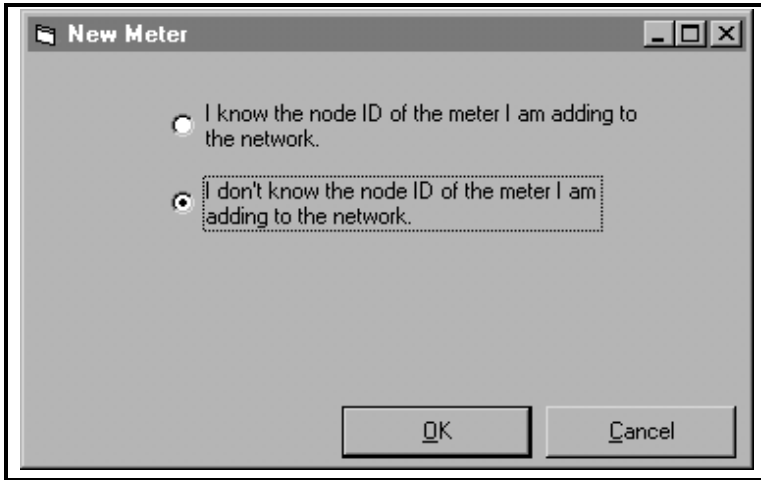

Figure 5: The Node ID Dialog Box
4. After selecting the “*New*” and “*Meter*” options, the dialog box shown in Figure 5 on the next page appears. Select the “*I don’t know the node ID of the meter I am adding to the network*” radio button and then click on the [OK] option button.